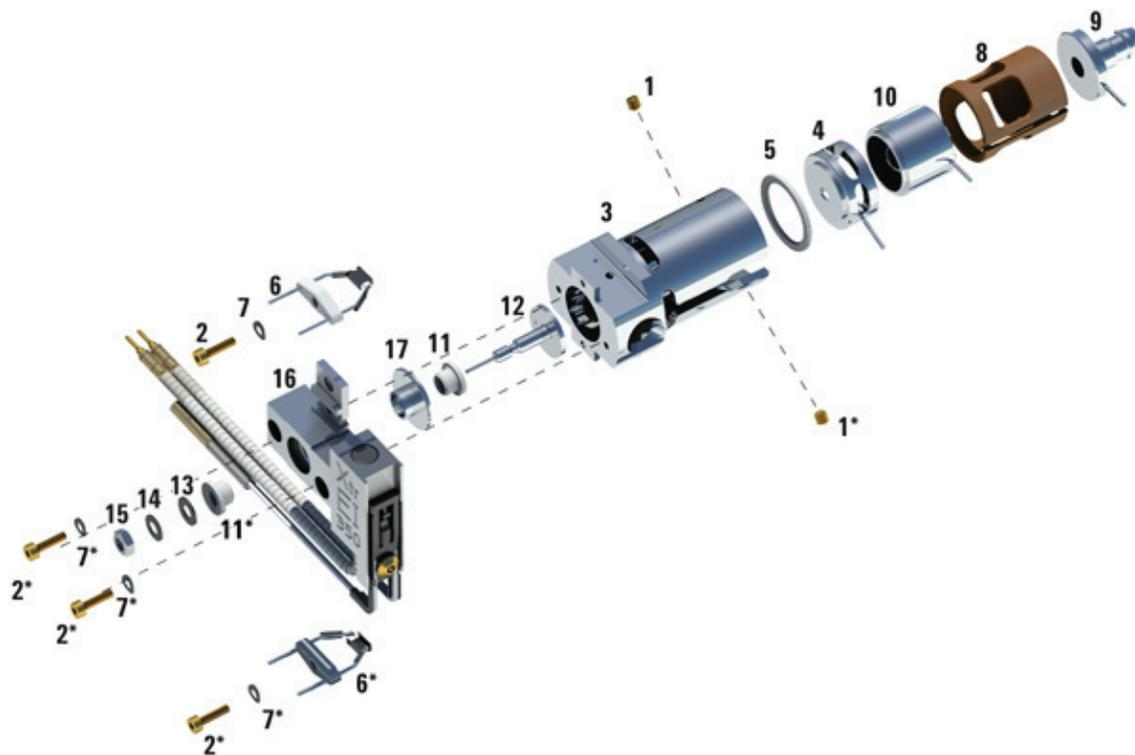

Figure 66. Assembling the EI HydroInert source
Refer to the exploded parts view and the EI XTR parts list while using this procedure. (See **Figure 66** and **Table 23** on page 206.)
- 1 Assemble the ion focus lens, extended entrance lens, and lens insulator. (See **Figure 66** and **Table 23** on page 206.)
- 2 Attach the extractor lens insulator to the extractor lens, and slide them into the source body. (See **Figure 66** on page 206.)
**Table 23** Parts list for EI HydroInert source (Figure 66)
Table 23 Parts list for EI HydroInert source (Figure 66) (continued)